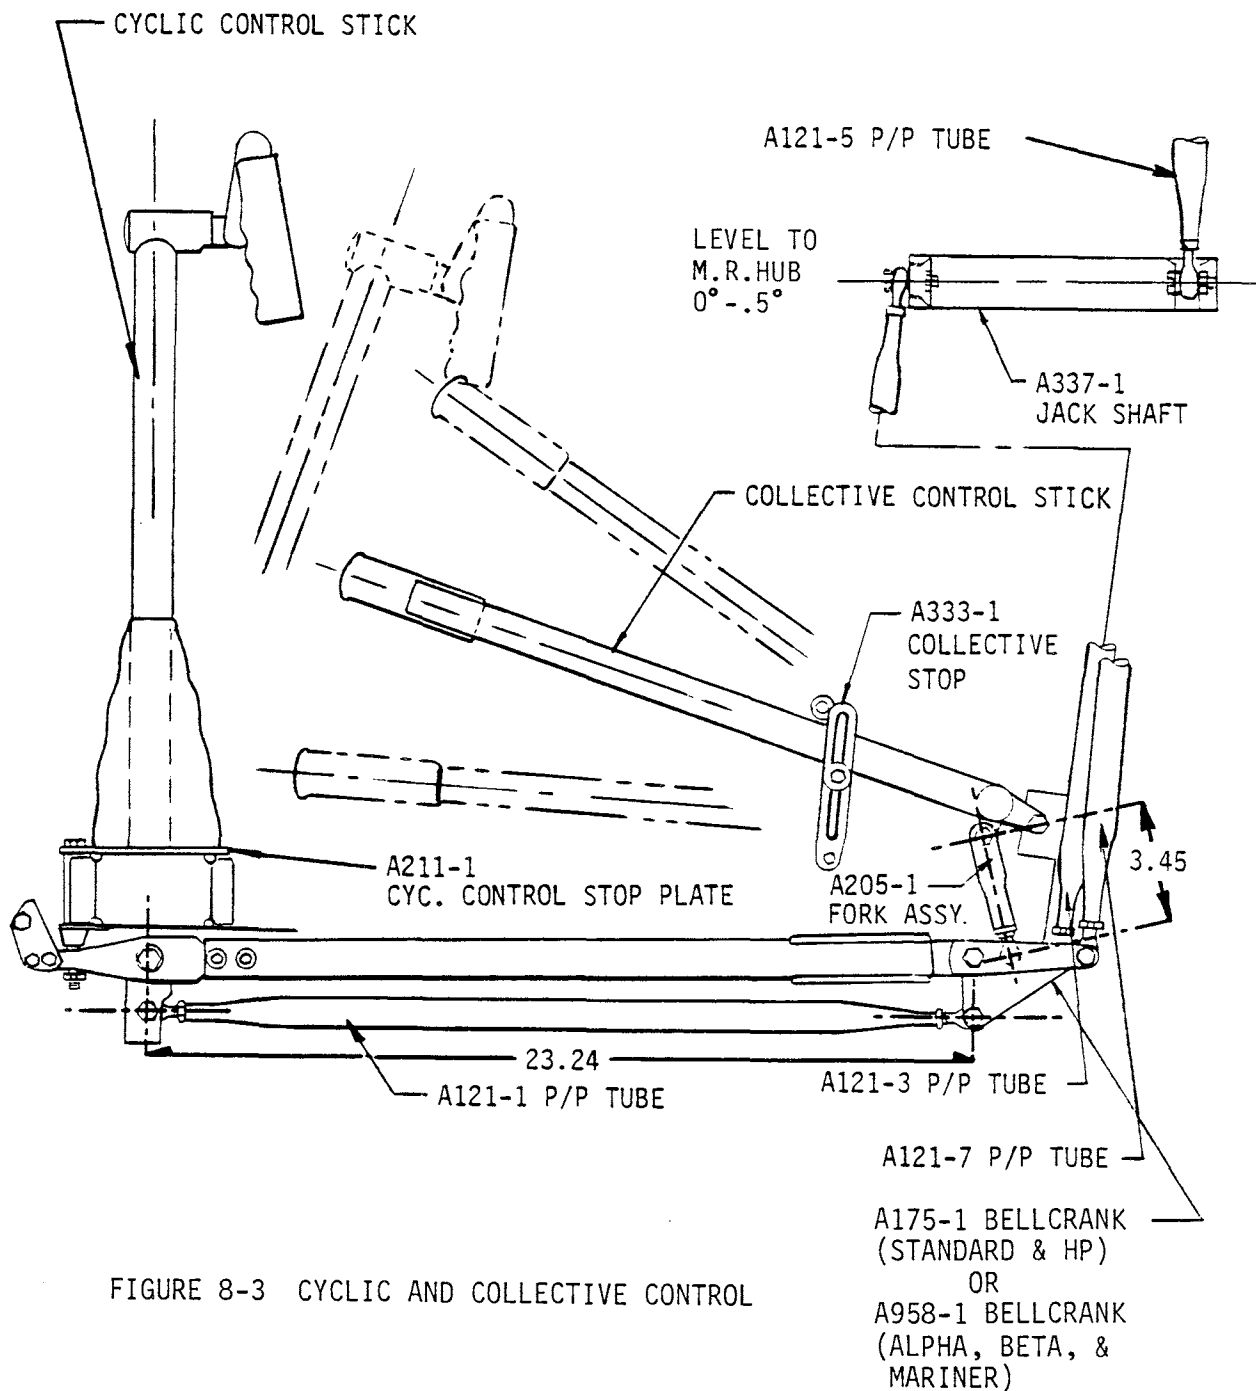

FIGURE 8-3 CYCLIC AND COLLECTIVE CONTROL
- e) Screw the A121-3 P-P tube onto the aft rod end of the A175 bellcrank assembly. (See Figure 8-3)
- g) If A205-1 fork was removed from forward rod end of A175 bellcrank, screw the fork onto the rod end to 3.45 inches from center of rod end hole to center of attaching bolt hole. (See Figure 8-3)